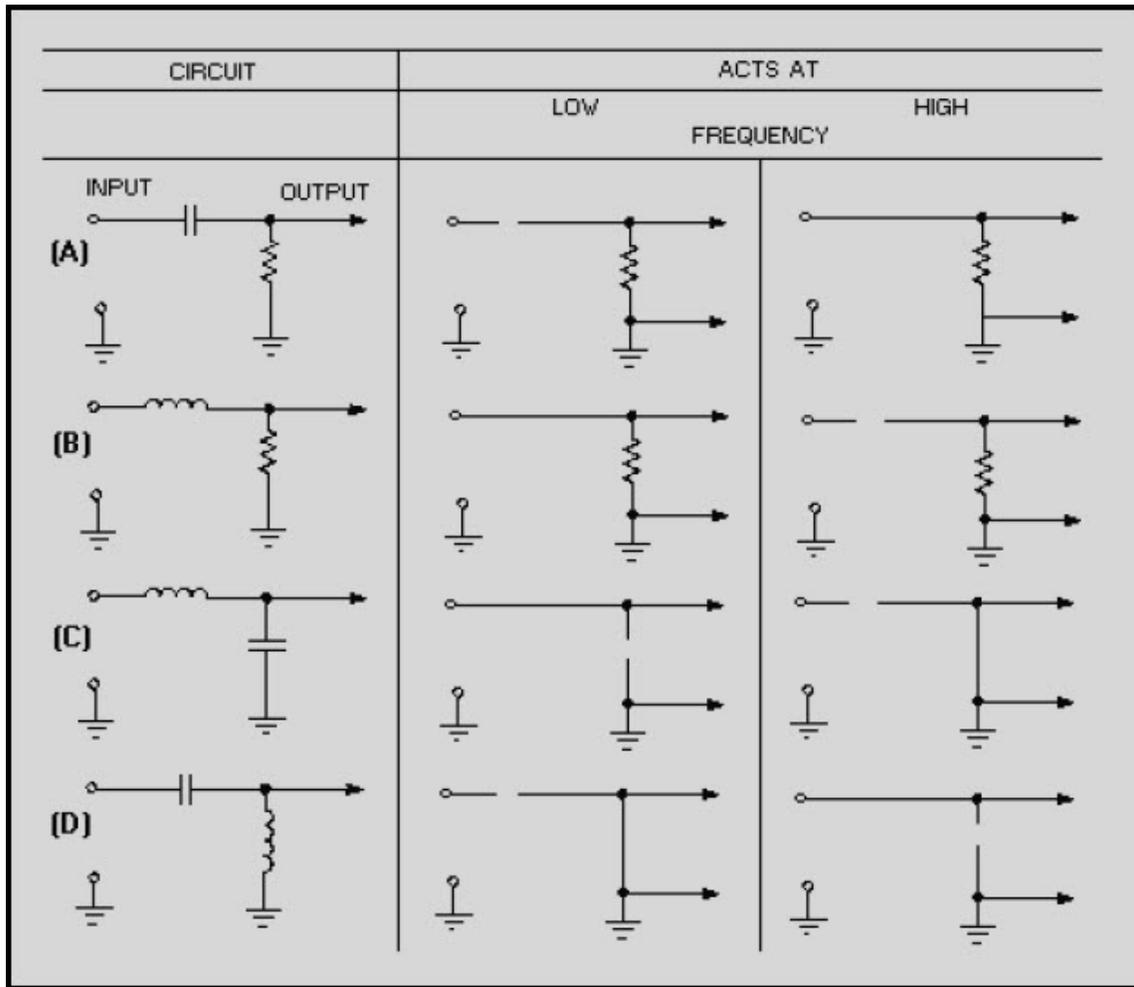

Figure 1-14 Reaction to circuit by change in frequency
If we apply these same principles to simple circuits, such as the ones in figure 1-14, they affect input signals as shown. For example, in view (A) of the figure, a low frequency is blocked by the capacitor which acts as an open and at a high frequency the capacitor acts as a short. By studying the figure, it is easy to see how the various components will react in different configurations with a change in frequency.